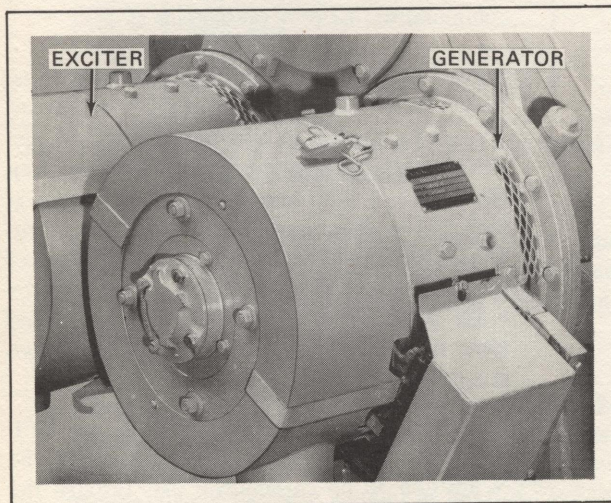

FIG. IV-8. TYPE GY27 MOUNTED ON TRACTION ALTERNATOR, TYPICAL.
The Type GY27 Auxiliary Generator/Exciters are force-ventilated, shunt-wound, d-c machines. The GY27 located at the four o'clock position on the traction alternator, Fig. IV-8, is used as an auxiliary generator to supply regulated 75-vdc power to the control equipment, lights and to charge the battery. The GY27 at the eight o'clock position, is used as an exciter to control the field current of the traction alternator.
2. Remove the four o'clock brushholder assembly and the A1 connection strap on the generator, Fig. IV-8, or the two o'clock brushholder assembly on the exciter. Lift all the other brushes on the machine being resurfaced.